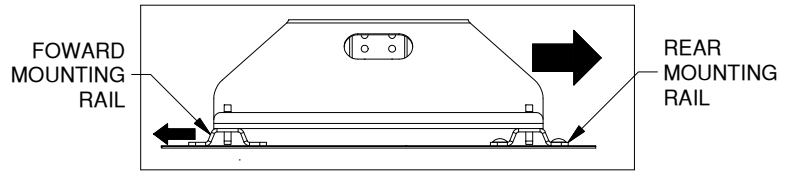

Figure C4: Side view of RV base and mounting rails.
- 3. IMPORTANT:** Before drilling forward mounting holes pull the RV base towards the rear of the truck and push the forward rail towards the cab of the truck to correctly space the mounting rails, see figure C4.